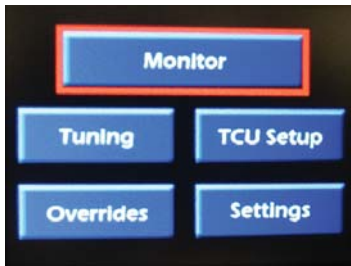

Figure 3
After the power up screen, the Tuner will display available functions of the Simple Shift Tuner (**Figure 3**).
1. To alter, select “MONITOR” using the “UP” and “DOWN” arrow buttons and press the “OK” button (**Figure 3**).